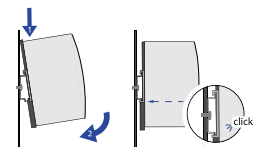

Fig. 1-1: Mounting
- ⇒ Install the device onto a DIN rail according to EN 60715, see Fig. 1-1.